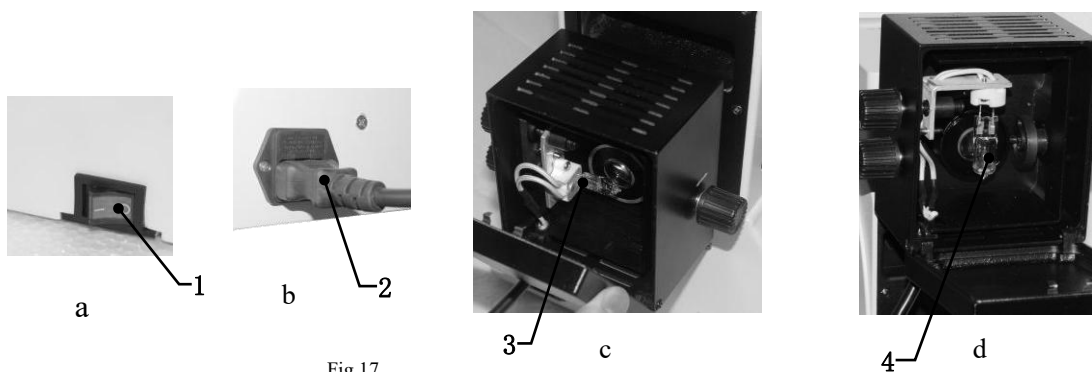

Fig.17
- (1) Turn off the power switch 1, and unplug the power cord 2, as shown in Fig. 17-a, 17- b.
- (2) Wait at least 30 minutes until the bulb and its surroundings have cool down. This is to prevent hand getting burnt by heat.
- (3) Catch hold of the lamp house back cover and pull out backward, take out the defective bulb 3 and replace a new one. Close the back cover again. as shown in Fig. 17-c, 17- d.
- (4) Connect the power cord and turn on power switch.
- (5) Check and adjust the center of the bulb according to the above-mentioned centering method for alignment of illuminator in the inverted microscope .